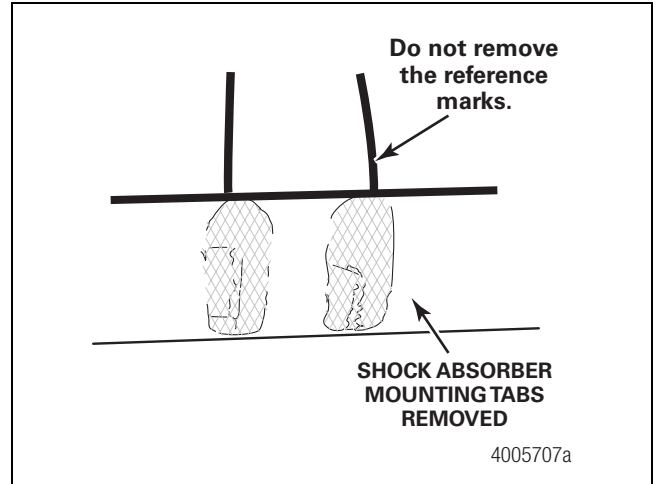

Figure 5
18. Grind off the remaining weld. Ensure that you do not grind flush to the axle tube. Figure 5.